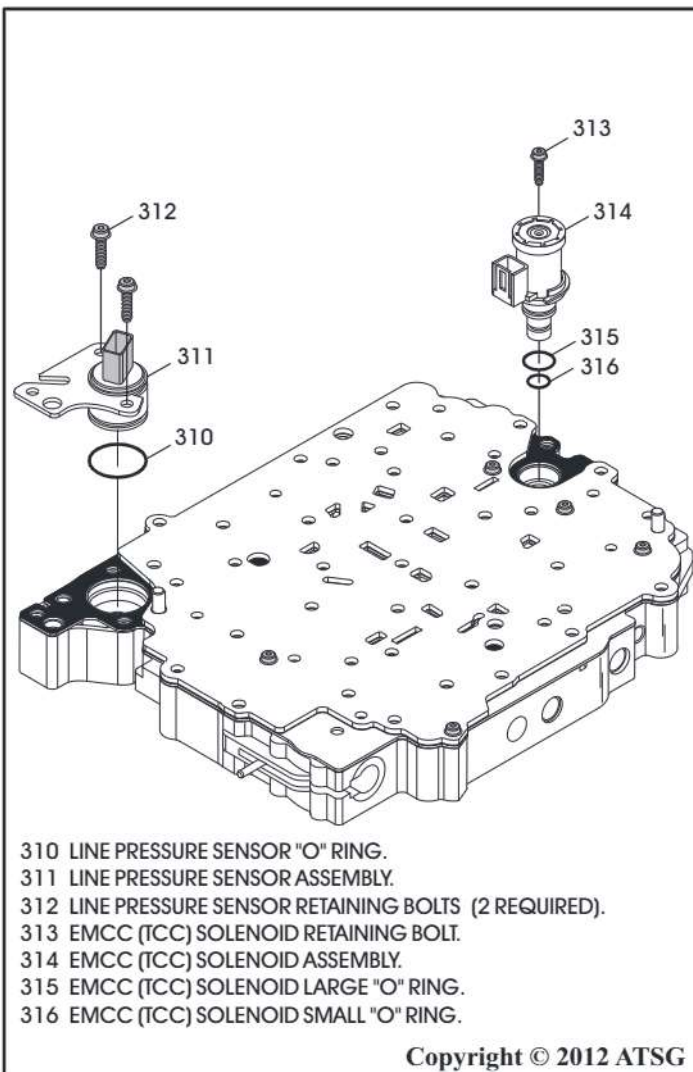

Figure 220
31. Install new "O" rings on EMCC (TCC) solenoid, as shown in Figure 220, and lube with a small amount of Trans-Jel®.
32. Install EMCC (TCC) solenoid into valve body, as shown in Figure 220.
33. Install the retaining screw and torque screw to 6 N·m (53 in.lb.) (See Figure 220).
34. Install new "O" ring on the line pressure sensor, as shown in Figure 220, and lube with a small amount of Trans-Jel®.
35. Install the line pressure sensor into valve body, as shown in Figure 220.
36. Install the 2 retaining screws and torque both to 6 N·m (53 in.lb.) (See Figure 220).